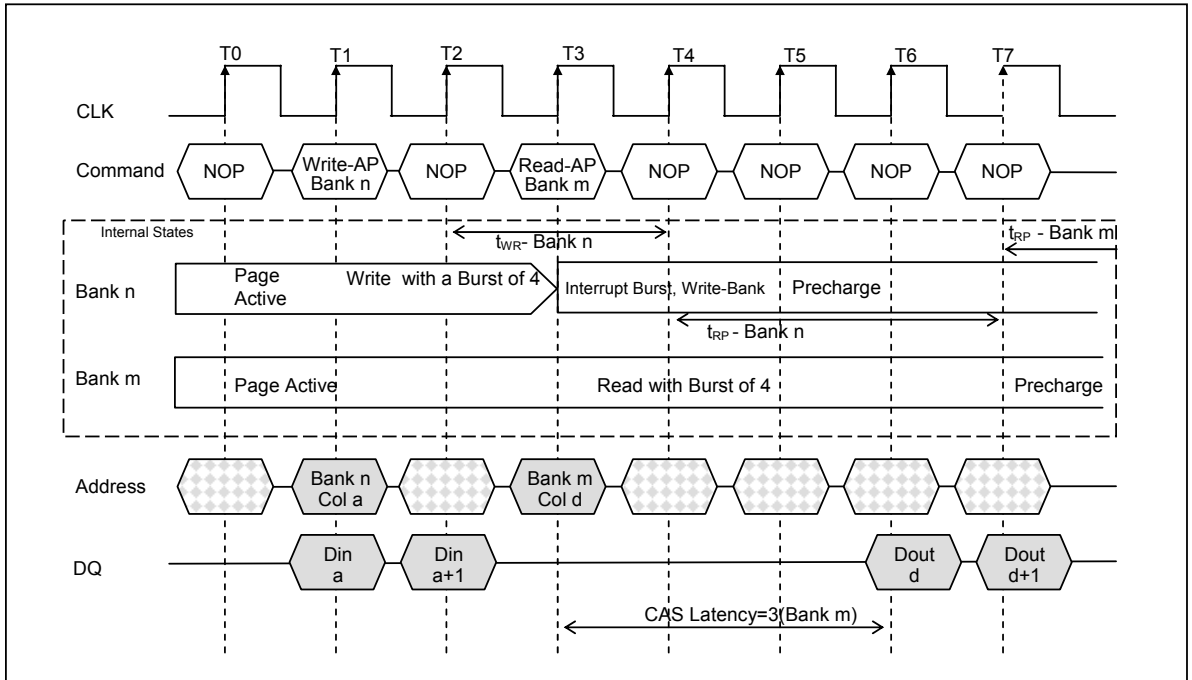

Figure 27. Write with Auto Precharge Interrupted by a Read with Auto Precharge (CAS Latency =3)
3. Interrupted by a Read (with or without auto precharge): A Read to bank m will interrupt a Write on bank n when registered, with the data-out appearing CAS latency later. The Precharge to bank n will begin after t_{WR} is met, where t_{WR} begins when the Read to bank m is registered. The last valid Write to bank n will be data-in registered one clock prior to the Read to bank m. (Figure 27.)